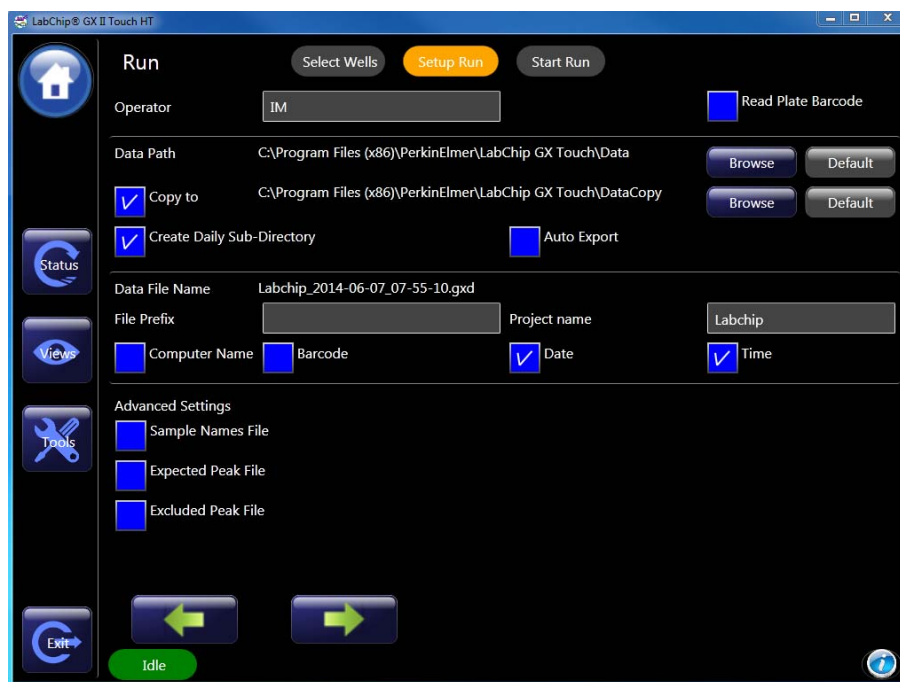

Figure 10. Run Setup Screen
- 3 In the *Setup Run* tab, select the operator name, the option to read barcode, the destination of the file, the inclusion of sample names, expected peaks, and excluded peaks and the filename convention. Select *Auto Export* to export results tables automatically (Figure 10). Touch the green arrow.